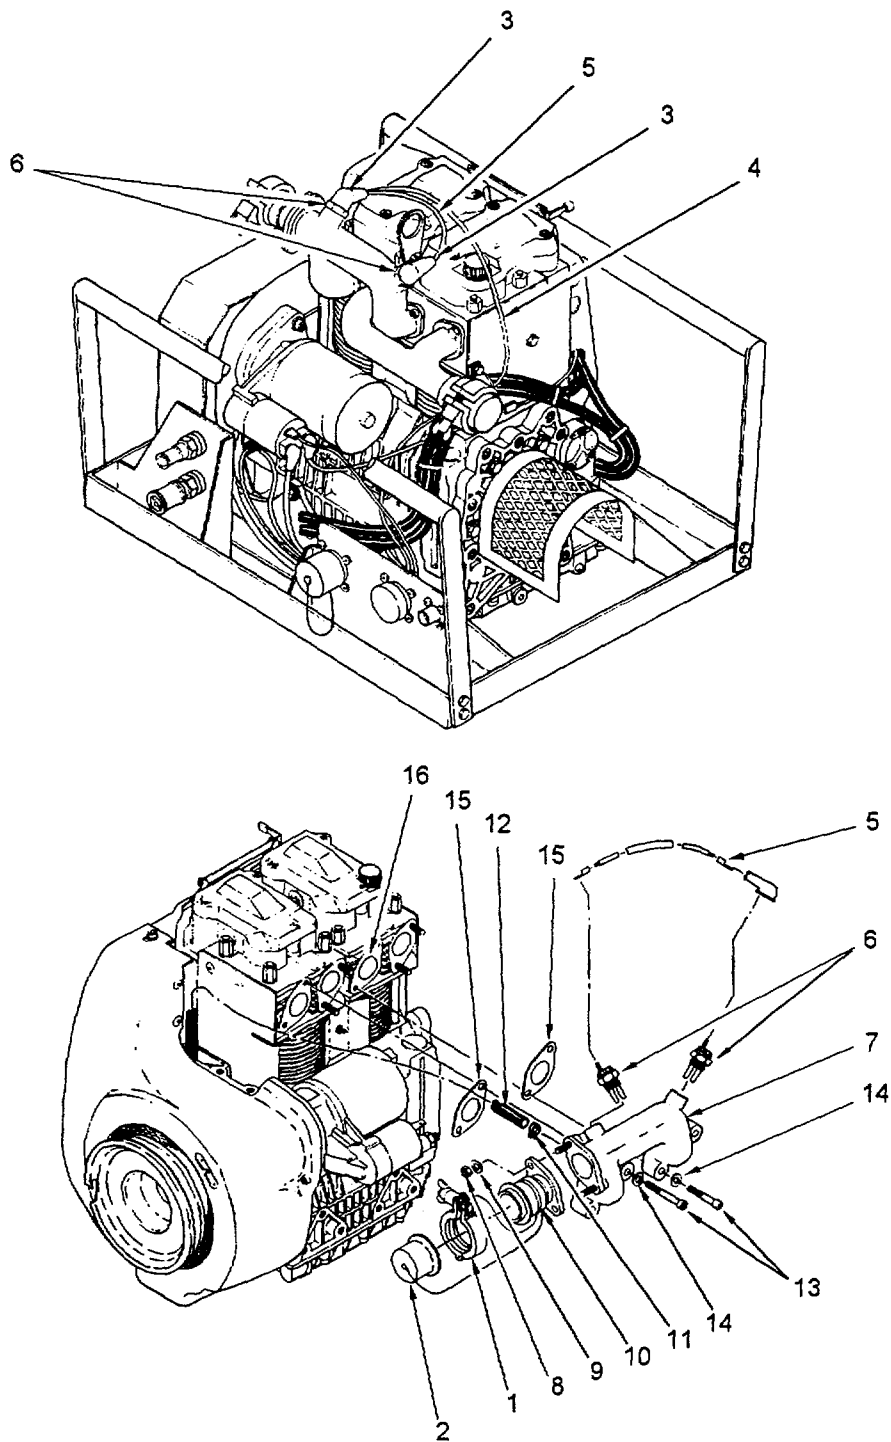

Figure 4-22. Intake Manifold Replacement
4.14.6 Replace Intake Manifold. (Refer to figure 4-22.)